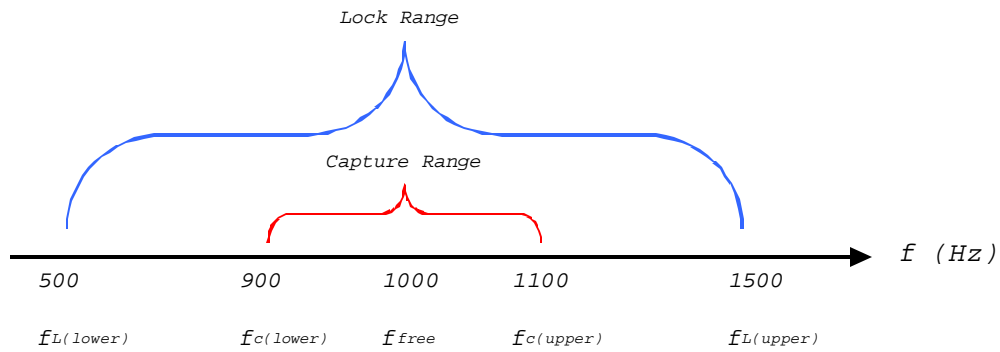

Figure 2: PLL Operating Regions
Figure 2 illustrates the relationship between free-running frequency, capture range, and lock range.
6. Slowly increase the frequency of the generator until the PLL just locks. (The two traces appear stable on the scope). A phase shift will be present between the VCO and reference frequency; this is OK. This frequency is the bottom of the capture range, $F_C(\text{lower})$, as shown in Figure 2. Record it below.